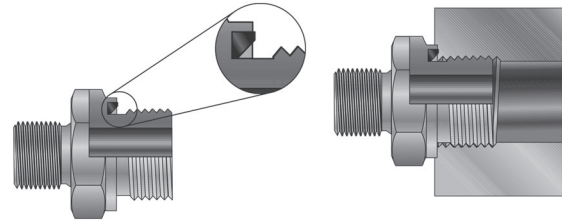
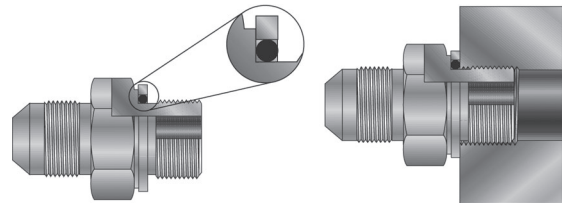

Fig. R2 – EOlastic Seal, Type E
Fig. R3 – O-Ring with Retaining Ring, Types G & H
With the BSPP and metric flat face port ends, the sealing actually takes place on the top surface (spot face) of the port. Port dimensions can be found on pages S34 and S35 respectively. There are several sealing methods available for these ports. Port studs with type “E” sealing utilize Parker’s EOlastic seal (ED) (see Fig. R2) and are recommended for higher pressures than the other types. Types “G” and “H” use an O-ring that is supported on the outside by a removable retaining ring (see Fig. R3). Type B (cutting face) is designed with a relatively sharp